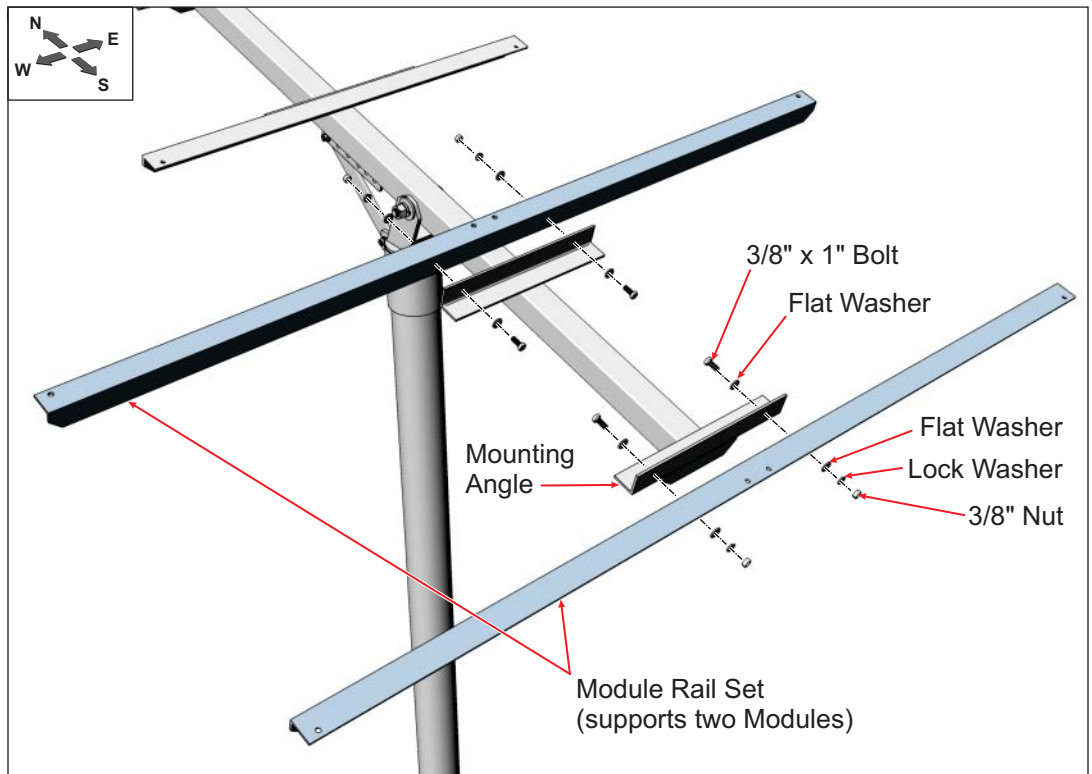

Figure 3-4: Installing the Long Set of Module Rails
- A. Align the first long Module Rail mounting holes with the holes of the Mounting Angle and secure with 3/8" x 1" bolts and hardware. Finger-tighten for now. (See Figure 3-4)